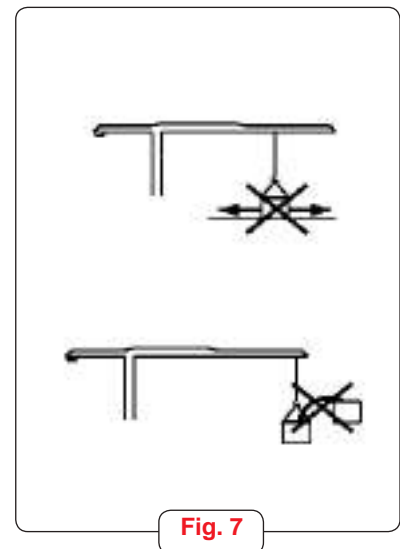

Fig. 7
- Dragging loads over the floor (Fig 7)